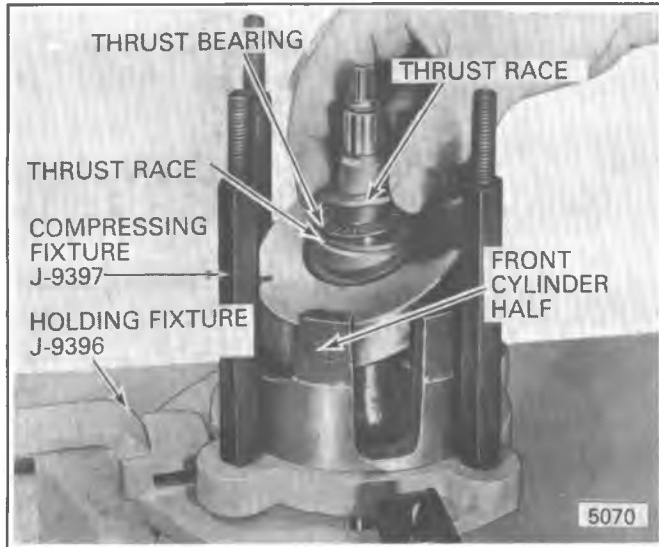

Fig. 1D-36 Installing A-6 Rear Thrust Races and Bearings
5. Now install a zero thrust race on rear end of compressor axial shaft (Fig. 1D-36), so that it rests on hub of axial plate. Then add one thrust bearing and a second zero thrust race onto shaft.